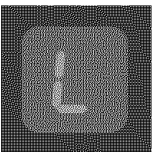

Fig. 16
KEEP WARM - Use the WARM (or LOW) key pad to activate the Warm setting for any of the Cooking Zones. The ON/OFF key pad for the desired Cooking Zone must be activated first, then touch the WARM key pad located in the Cooktop Main Control area once to set. **L** (LOW) should appear in the corresponding Cooking Zone LED (See Fig. 16 & page 10 for complete information).
2. Touch the **WARM** key pad located in the main control area. The Cooking Zone will display **L** (LOW) indicating that the Cooking Zone is properly set to Keep Warm. If no other key pads are pressed the control will activate the desired Cooking Zone at the Keep Warm setting (See Fig. 16).